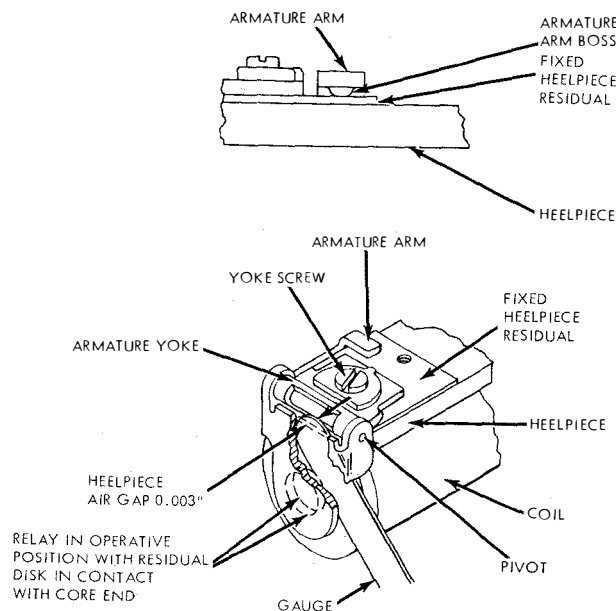

Figure 7-117. Relay Heelpiece Air Gap
(b) Check the heelpiece air gap. (See figure 7-117.) The heelpiece air gap must be large enough to keep the armature from striking or binding against the heelpiece, but must be as small as possible in order to obtain the maximum magnetic strength.
stationary contact springs. Spring gauging is measured by inserting a gauge between the armature residual disk and the core, with the armature held operated, and observing if the contacts being gauged make or break. The gauging value for each contact is listed in the relay adjustment table, in the spring gauging column. The armature stroke must also be checked when checking or adjusting the spring gauging. If it is found necessary to readjust the stroke, the armature arm should be bent as necessary. In general, once the stroke adjustment is made during the manufacture, there is no need for readjustment. Care should be taken so that after adjustment the armature does not bind on the heelpiece and that the portion of the armature that is formed over the heelpiece is still parallel to the heelpiece and rests on the residual plate on the heelpiece with the relay inoperative (see figure 7-117).
(b) The outer surface of the portion of the armature arm which actuates the spring bushing should be approximately parallel to the heelpiece, as gauged visually. The inner surface should make contact with the heelpiece residual plate only on the armature boss located on the heelpiece side of armature arm. This contact must be a minimum of 0.010 inch, as gauged visually from the edge of the heelpiece residual plate in any position permitted by the end play of the armature on its bearings (see figure 7-117).
(2) **HEELPIECE AIR GAP.** (See figure 7-117).— Check the relay armature to make sure it moves freely in its bearings, without excessive side play. The armature should clear the end of the heelpiece, with an air gap of not more than 0.004 inch. Measure at the closest point with the armature operated. To readjust, loosen the yoke screw and insert a 0.003 inch thickness gauge between the armature and the heelpiece. Shift the armature yoke along heelpiece until the armature presses firmly against the thickness gauge. Tighten yoke screw after completing the adjustment.